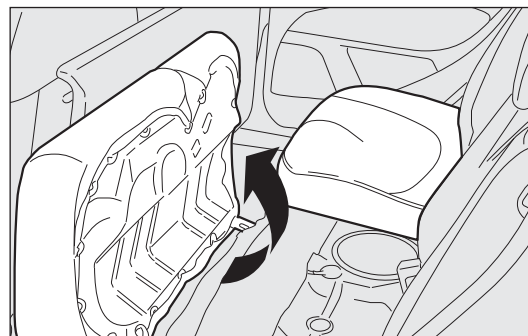

fig. 100
### Partial extension (1/3 or 2/3) fig. 100 (for versions/markets where provided)
- tilt the cushions forward as shown by the arrow fig. 100;